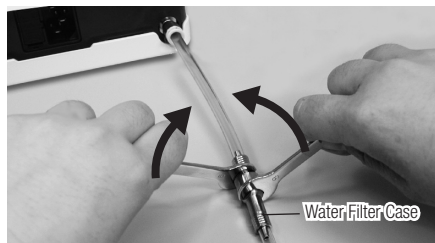

Fig.39
- 2) Mount two Spanner Wrenches (5x8) and turn those as shown in Fig.39.